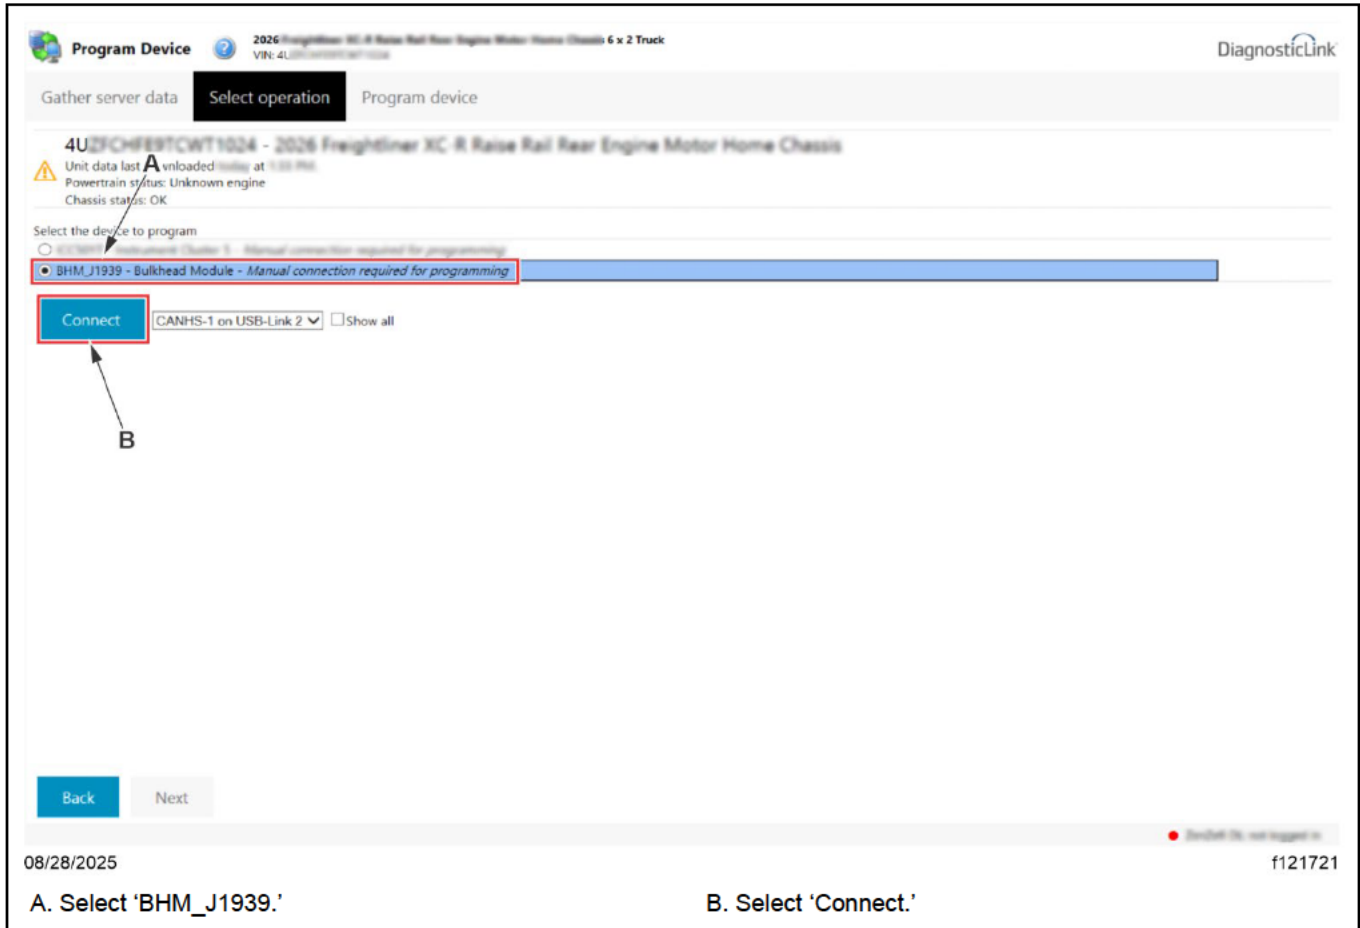

Fig. 3, Selecting the Device to Program
11. Select 'BHM_J1939' as the device the program, then select 'Connect.' See Fig. 3.